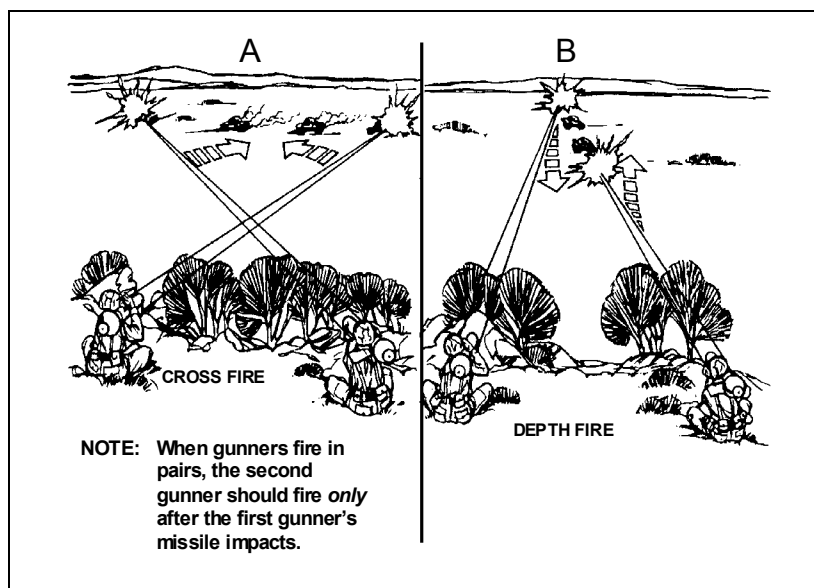

Figure 8-23. Fire patterns.
(c) **Follow-Up.** As they destroy their targets, Dragon gunners shift their fire to the center of the enemy formation (A, Figure 8-23, page 8-20).
(2) **Depth Fire.** Leaders use depth fire when targets are exposed in depth. Dragons on one side engage the nearest targets, while Dragons on the other side engage the farthest targets. The gunners then shift their fire toward the center of the formation. This can be specified by unit SOP or in the section leader's order (B, Figure 8-23, page 8-20).